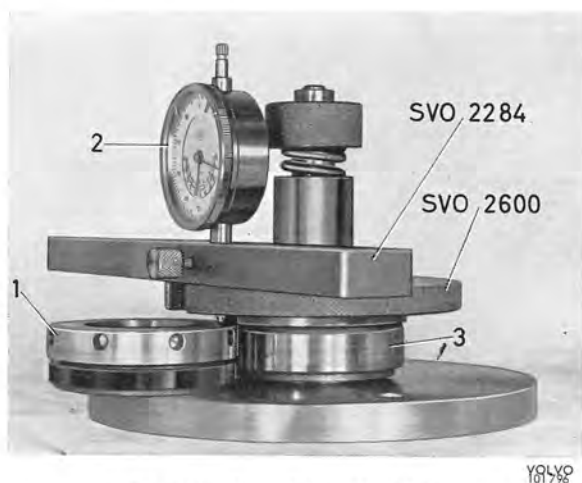

Fig. 4-159. Determining shim thickness
3. Place the rear pinion bearing complete with the outer ring in measuring fixture 2600. Put on the plate, spring and nut. Turn the nut with the flat side facing upwards. The plate, and thereby the bearing, is turned forwards and backwards several times so that the rollers take up the correct position. Place the adjusting ring in the measuring fixture as shown in Fig. 4-159. Use retainer 2284 and dial indicator, place the measuring point of the indicator opposite the adjusting ring and zero-set the indicator. Then set the pointer of the indicator to the outer ring of the bearing. The dial indicator now shows directly the thickness the shims should have. Measure the shims for the correct thickness with a micrometer, see Fig. 4-160. NOTE. It is almost impossible to obtain a shim with exactly the correct thickness. However, they must not be 0.03 mm (0.0012") thicker than the measured value, but up to 0.08 mm (0.0032") thinner.
times. Put on the dial indicator and retainer 2284. Zero-set the indicator to the adjusting ring and then place the measuring point facing the bearing, see Fig. 4-159. Read off the indicator. With a micrometer measure the shims, the total thickness of which corresponds to the read-off value + 0.07 mm (0.003"). Place the shims together with the measured bearing to the one side. Repeat the above procedure with the other bearing.